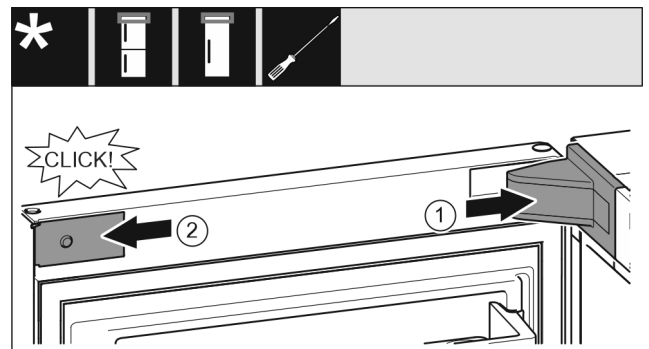

Fig. 20
- ▶ Position the bearing bracket cover and engage it. If necessary push it apart carefully. Fig. 20 (1)
- ▶ Position the panel on the side and latch into place. Fig. 20 (2)